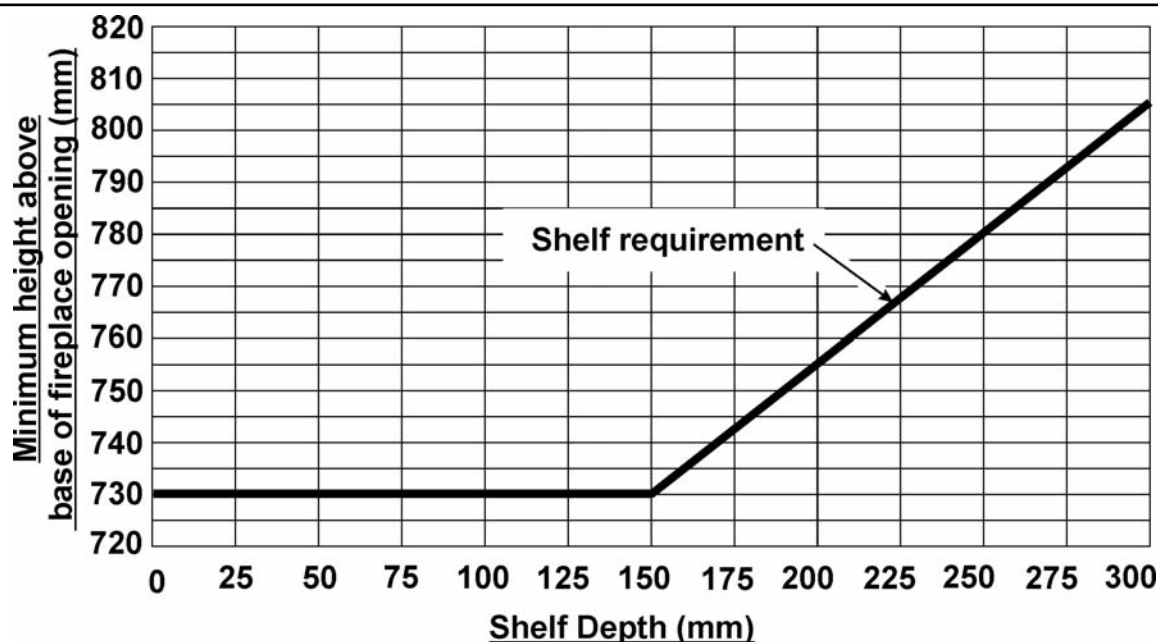

Figure 1. Combustible shelf clearances
- For a shelf deeper than 150mm: 730mm + 12.5mm for every 25mm depth over 150mm (See figure 1).